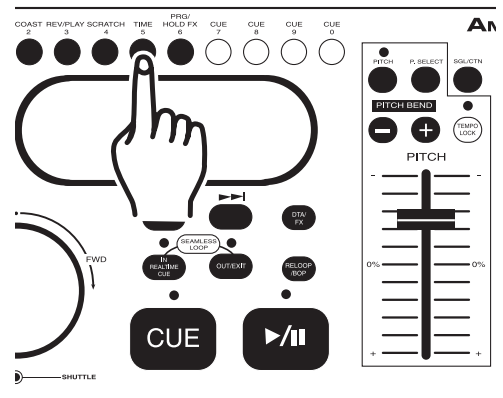

Figure 11
10. CHANGING THE TIME DISPLAY (42, 43, & 44)/TIME BAR (46):
The time may be displayed in three different modes; Elapsed, Remain, and Total Remain. During normal playback, pressing the TIME BUTTON (5) as in figure 11, will change the time display information (57, 58, & 59) in the LCD (14). The following is a break down of the time settings and their definitions:
- 1) ELAPSED (56) - This details the time in the LCD (14) as the current tracks' elapsed running time. The elapsed function only details a tracks elapsed time and not the entire disc.
- 2) REMAIN (62) - This details the time in the LCD (57, 58, & 59) as the current tracks' remaining running time.
- 3) TOTAL REMAIN (66) - This details the time in the LCD (14) as the total disc remaining time.